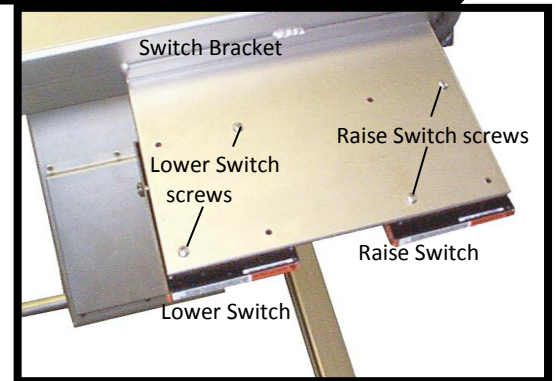

Figure 26: Raise & Lower Switch Mountings
3. With a small Phillips screwdriver, remove the two screws that hold the switch to the switch bracket (Figure 26), and remove the switch.